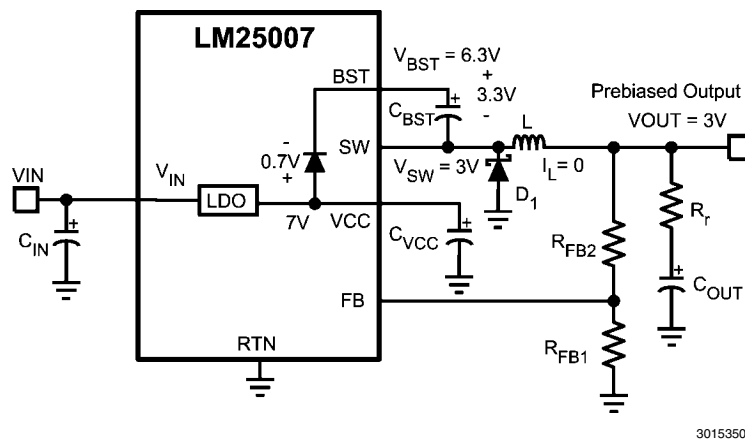
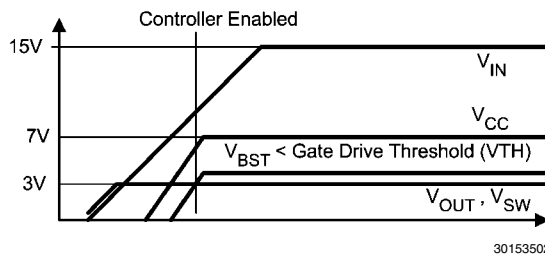

FIGURE 1. LM25007 Application with Prebiased Output
FIGURE 2. Startup with Prebiased Output
see Figure 1. This voltage is usually referred to as prebias. Since, at startup, there is no current in the inductor (L), the prebias voltage at the output appears at the switch node. If this prebias voltage is high such that the boot capacitor voltage ($V_{BST} = V_{CC} - V_{SW}$) is lower than the threshold voltage (V_{TH}) of high side gate, the high side switch fails to turn 'on' and the converter fails to startup see Figure 2. This condition persists until prebias is removed. A prebias is often caused by some leakage path in downstream circuits, e.g., a logic circuit or FPGA with a pin pulled high, or leftover charge from a previous power down.